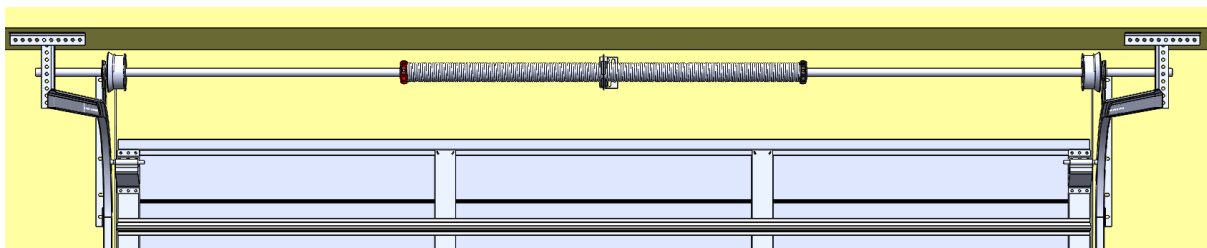

Figure 21
15. Bolt spring anchor bracket to lintel 100 – 200mm off centre to allow for motor mount. Ensure bracket is affixed to solid fixing. (Figure 21)